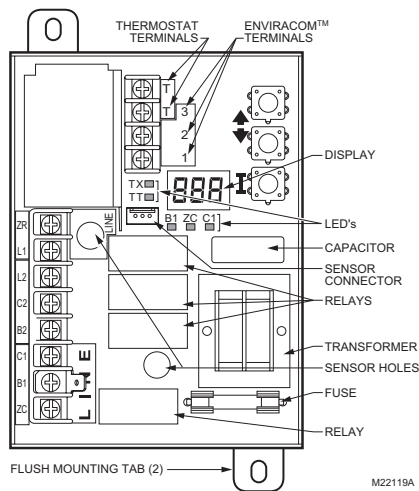

Fig. 4. Location of L7224U flush-mounting tabs and LEDs.
2. Carefully align replacement sensor with hole in circuit board and guide through Aquastat case and into well. Refer to Fig. 4.
4. Connect sensor to circuit board by pressing connector on sensor unit into mating connector on circuit board (refer to Fig. 4).